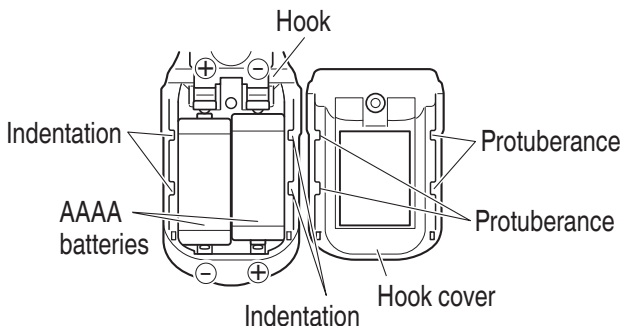

Fig. 16
- (b) Remove the old batteries and insert the new batteries. Align with the hook indications and position the plus (+) and minus (-) terminals correctly. (**Fig. 16**)